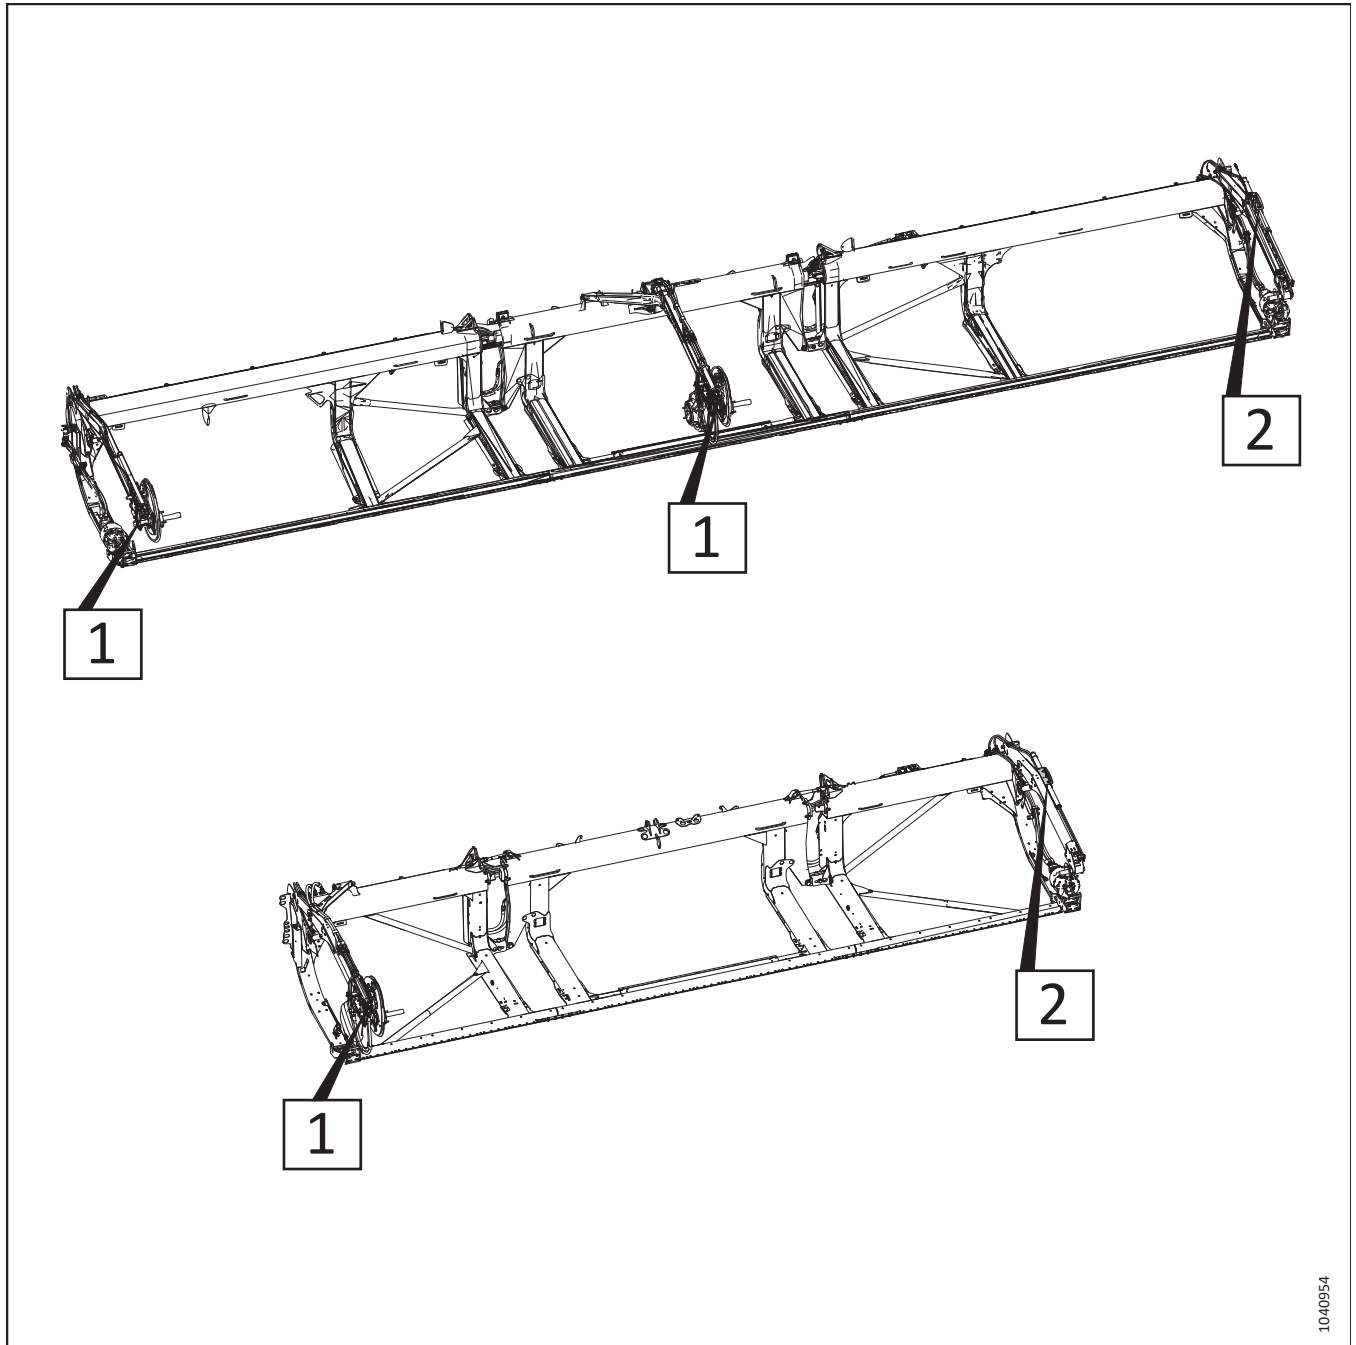

Figure 3.162: Adjustable Fore-Aft Cylinders – Procedure Reference Numbers
6. Refer to Figure 3.162, *page 151* to determine the fore-aft cylinder adjustment procedures for your header type. The number on the illustration refers to one of the following procedures: